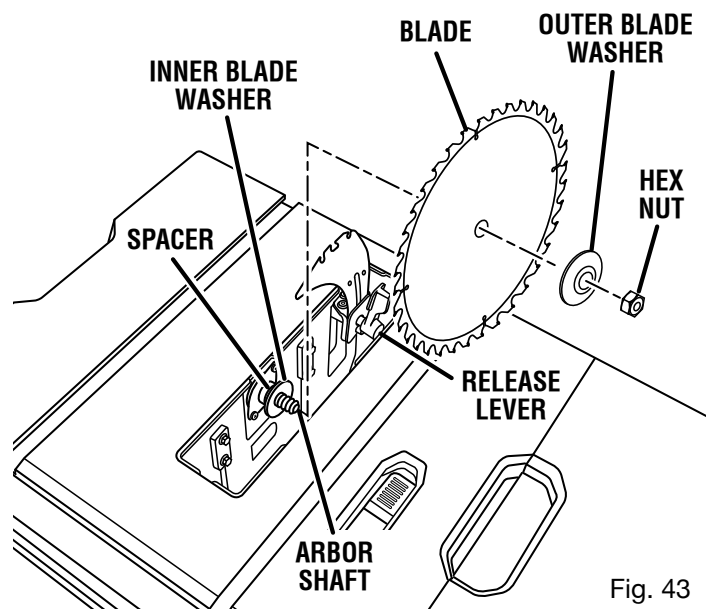

Fig. 43
- Remove the blade nut, outer blade washer, saw blade, inner blade washer, and spacer (*see figure 43*).